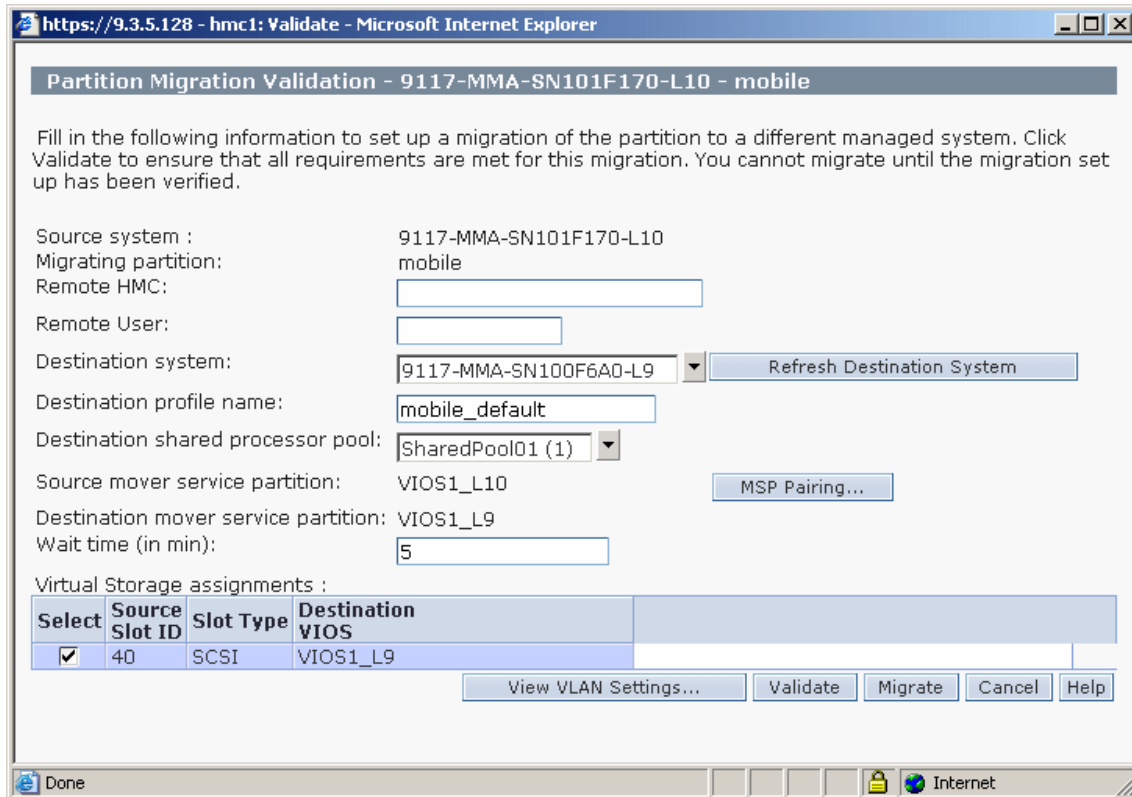

Figure 14-6 HMC Partition Migration Validation window after validation
- After you close the Partition Validation Errors/Warnings window, the Partition Migration Validation window, as shown in Figure 14-6, opens again.